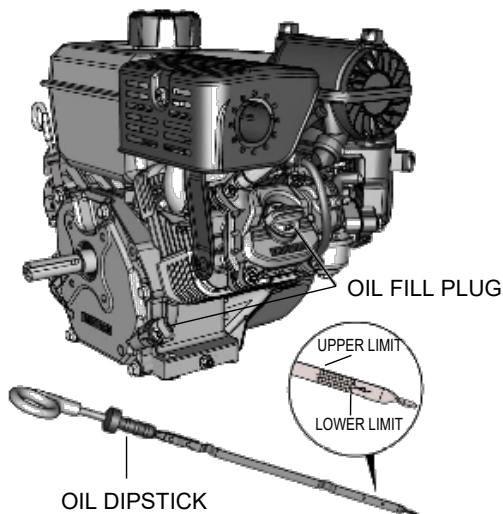

Figure 4. Engine Oil Check
2. Remove the dipstick from the holder (Figure 4) and wipe clean.
4. If the oil level is low (Figure 4), fill to the edge of the oil filler hole with the recommended oil type as listed in Table 5. Refer to Table 2 for maximum engine oil capacity.